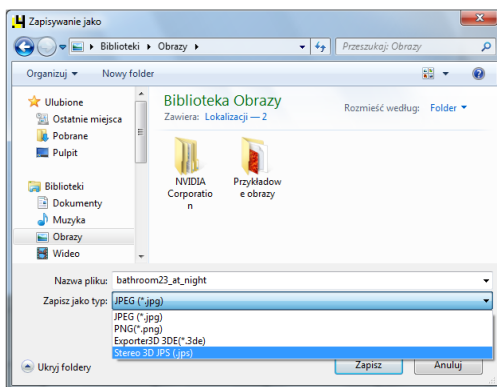

Fig. 472 – saving a file of an exported scene in visualization
- in the **Saving as** window enter the name of a created file, choose its format and indicate the destination location (Fig. 472), then click the **Save** button.